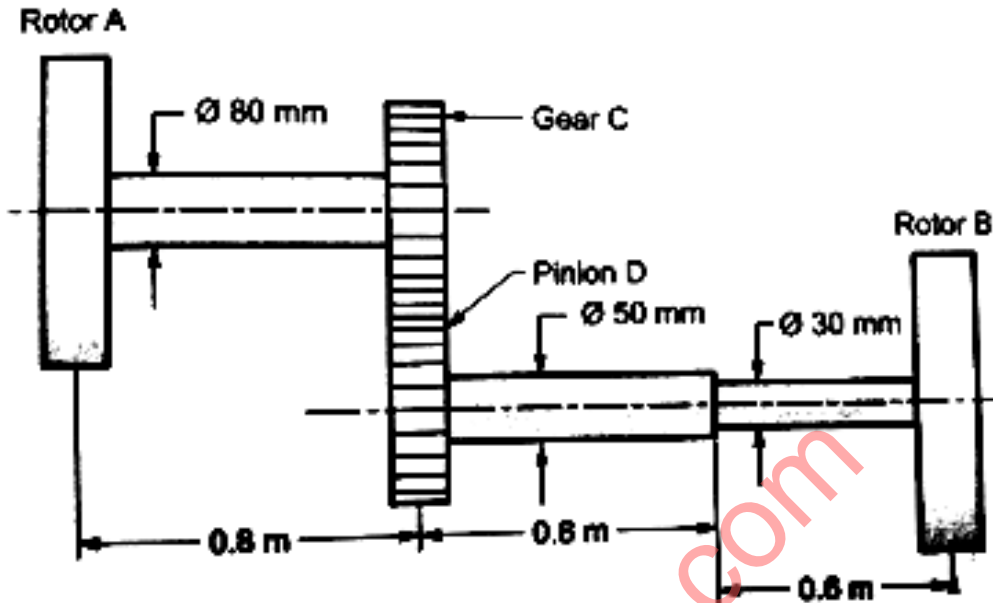

Fig.2
- (b) In a geared system shown in Fig.2 the mass of moment of inertia of rotor A and B are 2 kg-m^2 and 0.3 kg-m^2 respectively. The gear ratio between rotor B and A is 3. Calculate the node position and natural frequency of torsional oscillations. Ignore the inertia of the gears and shafts. Take modulus of rigidity of shaft material as $80 \times 10^9 \text{ N/m}^2$. 07